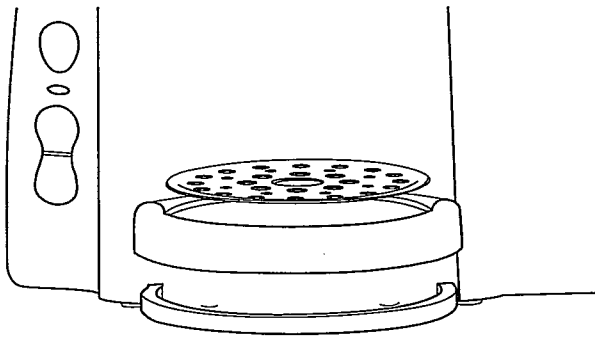

FIGURE 14
1. Lift the Drip Tray and Overflow Tray up and out to remove. See Figure 14.
5. Remove the Drip Tray and Overflow Tray, see Figure 14.